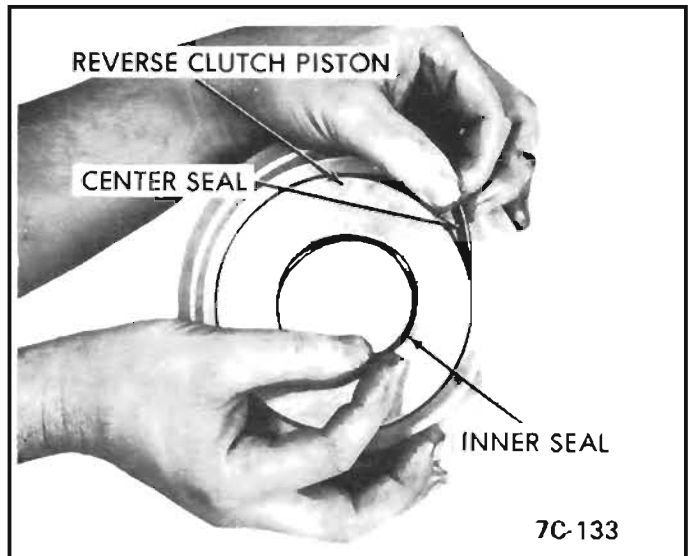

Figure 79 Inner and Center Seal Installation
2. Install low and reverse clutch piston center and inner seal, if previously removed. *See Figure 79.*